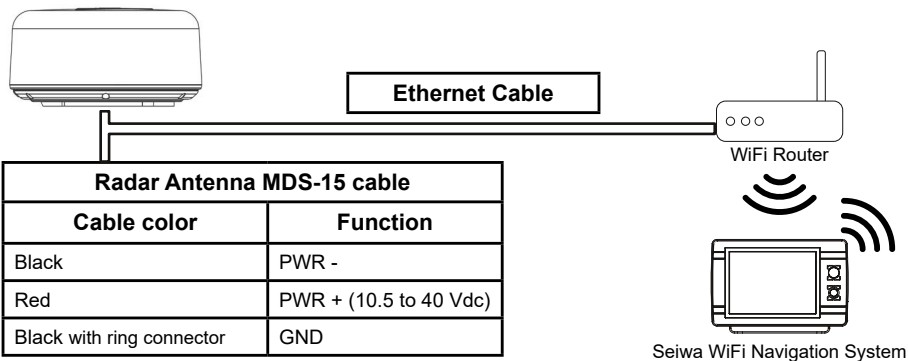

Figure 6.1. - Connections
- 4. Connect the radar MDS-15 to correct power source as shown on figure 6.1.